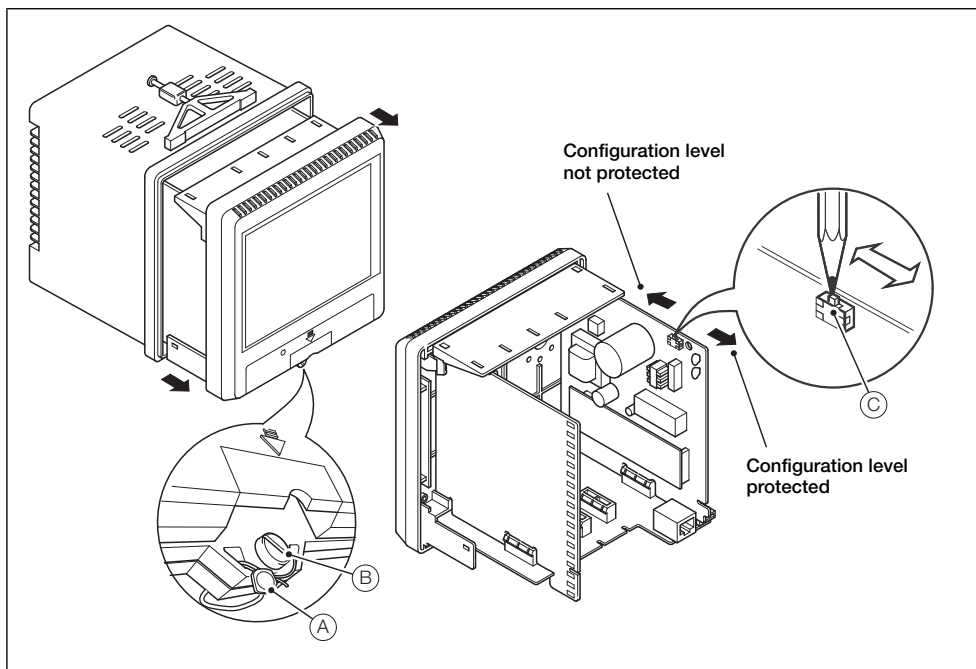

Fig. 7.3 Setting the security switch
The **Configuration** level cannot be accessed until the internal switch set to the 'Configuration level not protected' position – see Fig. 7.3, page 62.
Internal security switch setting (see Fig. 7.3)	Configuration security parameter setting
1. Set the internal security switch to the 'Configuration level not protected' position – see Fig. 7.3, page 62.
Referring to Fig. 7.3, set the internal security switch as follows: